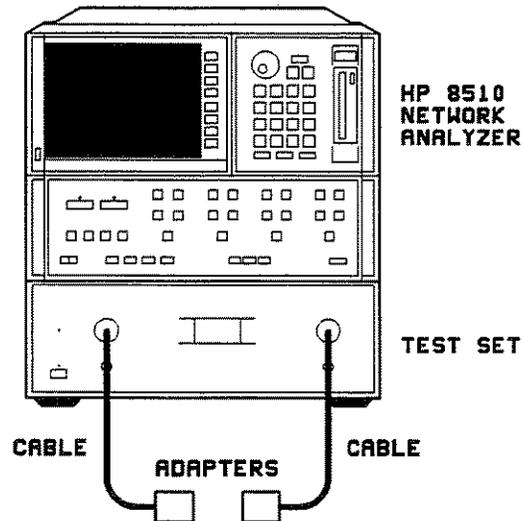

Figure 5-1. Return Loss Test Setup
1. Connect the equipment as shown in Figure 5-1. Turn on and preset the HP 8510. Let the setup warm up for at least one hour.